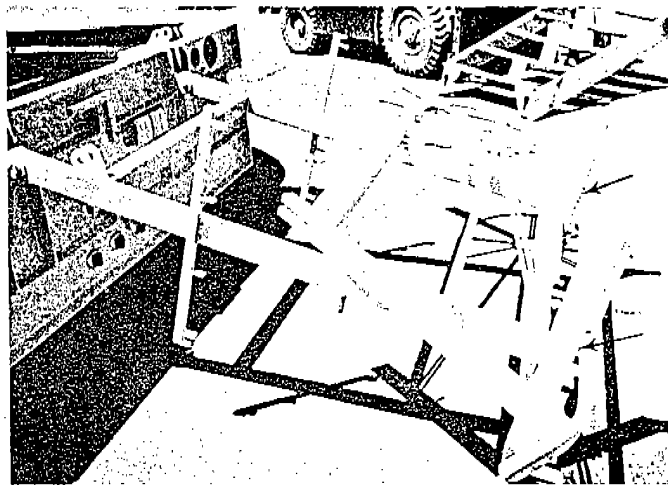

Fig. 89
- a. Stack two handrails over the top racking bar. Position the handrails in the storage slots on the rack. (Fig. 89)